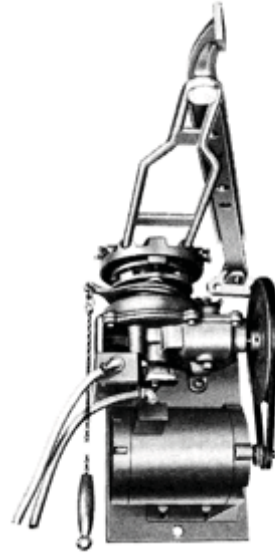

Figure 1.
(1) GENERAL: The Heavy Duty Operator is built into a compact unit consisting of an instantly reversing motor, a precision made speed reduction mechanism with V-belt and pulleys, a safety friction disc clutch, an emergency release, a fully automatic double acting limit switch, a heavy duty crank and connecting arm assembly, and a weather resistant cover (Figure 1). The Extra Heavy Duty Operator is similar but without the V-belt and pulleys.
(2) MOTORS: The motor has ample reserve power to take occasional overloads, and is furnished in 1/2, 3/4, or 1 HP sizes for standard gates, and a 1 HP (gearhead motor) for extra large and heavy gates. Motors are available in single phase, however three phase current is highly recommended for best all around performance.
(3) SHAFTS AND GEARS: Shafts and gears in the heavy unit are mounted in long life bearings enclosed in an oil tight housing and operate at all times in a bath